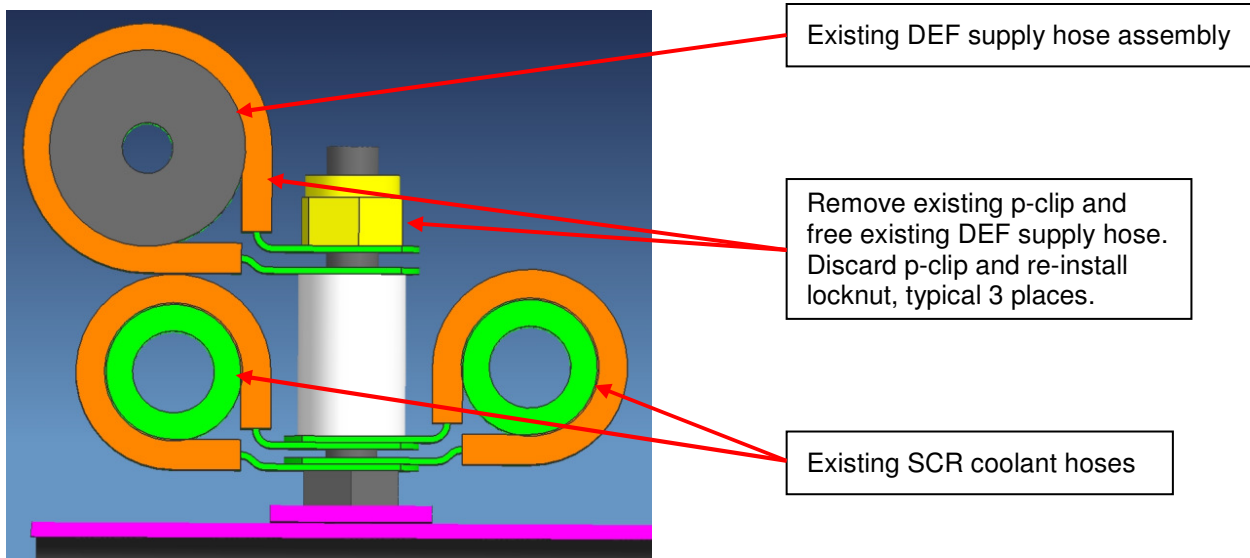

Figure 1: Existing DEF & Coolant Hose Configuration
4. Remove the locknuts that hold the DEF supply and coolant hose p-clips to the compartment floor, typical 3 places. See Figure 1.